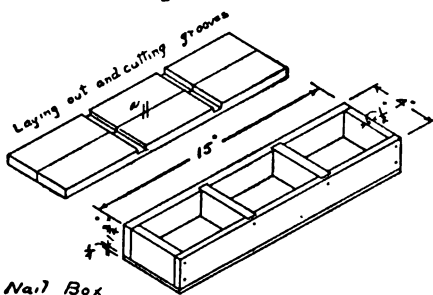

Fig. 133. The nail box
**T**HE boys now became very busy completing their shop equipment, and the first project was a box for holding different sizes of nails. This was to be kept on the bench where it could be reached conveniently, and it is shown in Fig. 133.